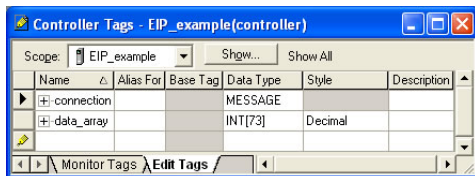

Figure 101: Create New Tags
- b) The "Controller Tags" window appears. Refer to Figure 101.